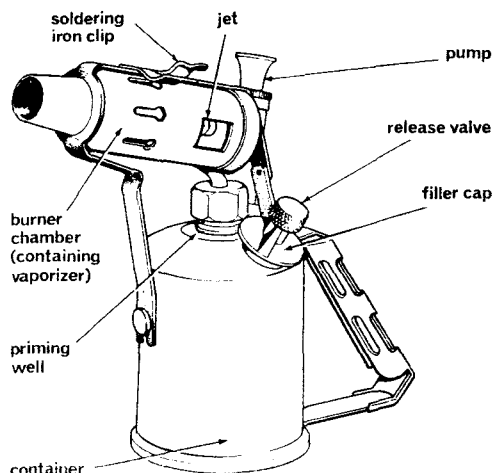

Fig 7.3 1 Pint Brazing Lamp
Construction and operating principle. The main constructional features of a brazing lamp are shown in Fig 7.3. Kerosene from the container is forced under pressure through the vaporizer to the jet. On leaving the jet, the vapour becomes mixed with air in the burner chamber and when the resulting mixture is ignited it burns with a blue flame of fairly high temperature. The burner chamber is so designed that the flame also heats the vaporizer. Pressure is applied to the container by a hand-operated pump embodying a non-return valve, and is released through an air release valve.
- Fill the priming well (Fig 7.3) with methylated spirits and ignite the spirit to heat the vaporizer. The capacity of the priming well is such that when practically all the spirit has been burnt the vaporizer should be hot enough to function correctly.